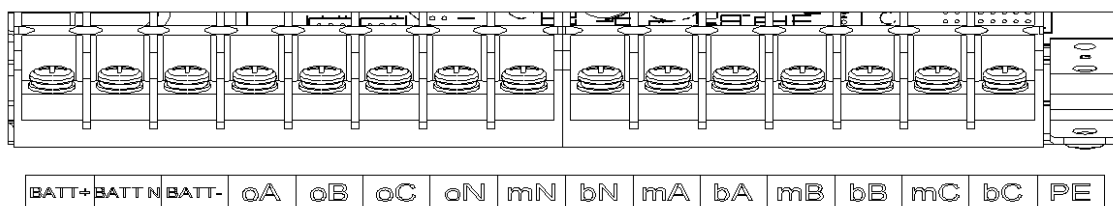

Figure 3-5 Connection terminals
- (1) Verify that all the switches of the UPS are completely open and the UPS internal maintenance bypass switch is open. Attach necessary warning signs to these switches to prevent unauthorized operation.
- (2) Open the back door of the cabinet, remove the plastic cover. The input and output terminal, battery terminal and protective earth terminal are shown in Figure 3-5